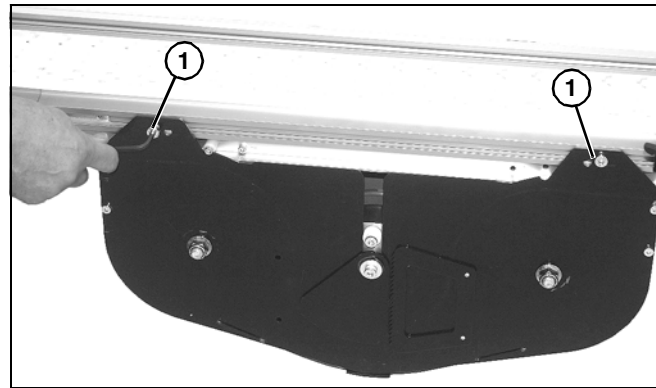

Figure 78
1. Remove two socket head screws (Figure 78, item 1) on each side securing assembly to frame.